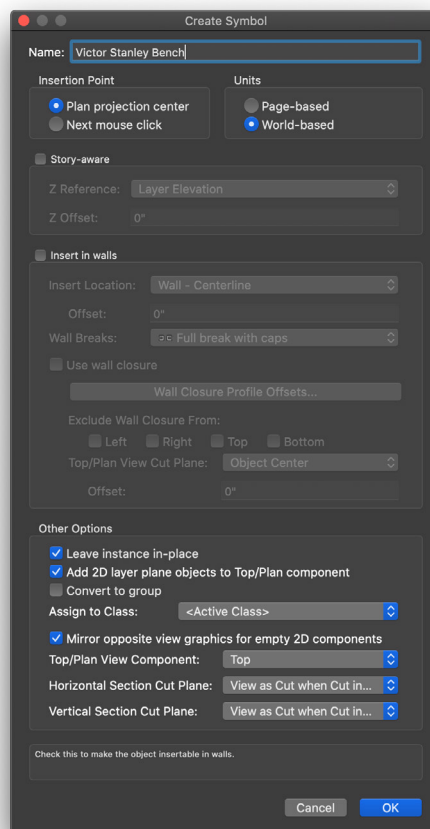

FIGURE 12: Create Symbol dialog
5. Within the Modify pull down menu, choose Create Symbol. **(Figure 12)**